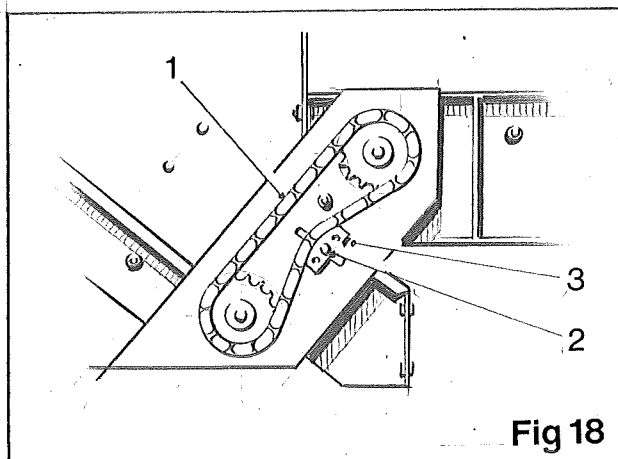

Fig 18
The elevator feed web transfers the crop from the roller cleaner unit to the discharge elevator (unmanned machines)/'C' elevator (manned machines). The feed web drive is taken from the discharge elevator/'C' elevator lower drive shaft via two sprockets and a drive chain. To adjust the tension of the drive chain (item 1, fig 18), slacken the securing bolt (item 2, fig 18) and slide the nylon tensioner block (item 3, fig 18) in the required direction. Finally, retighten the securing bolt.